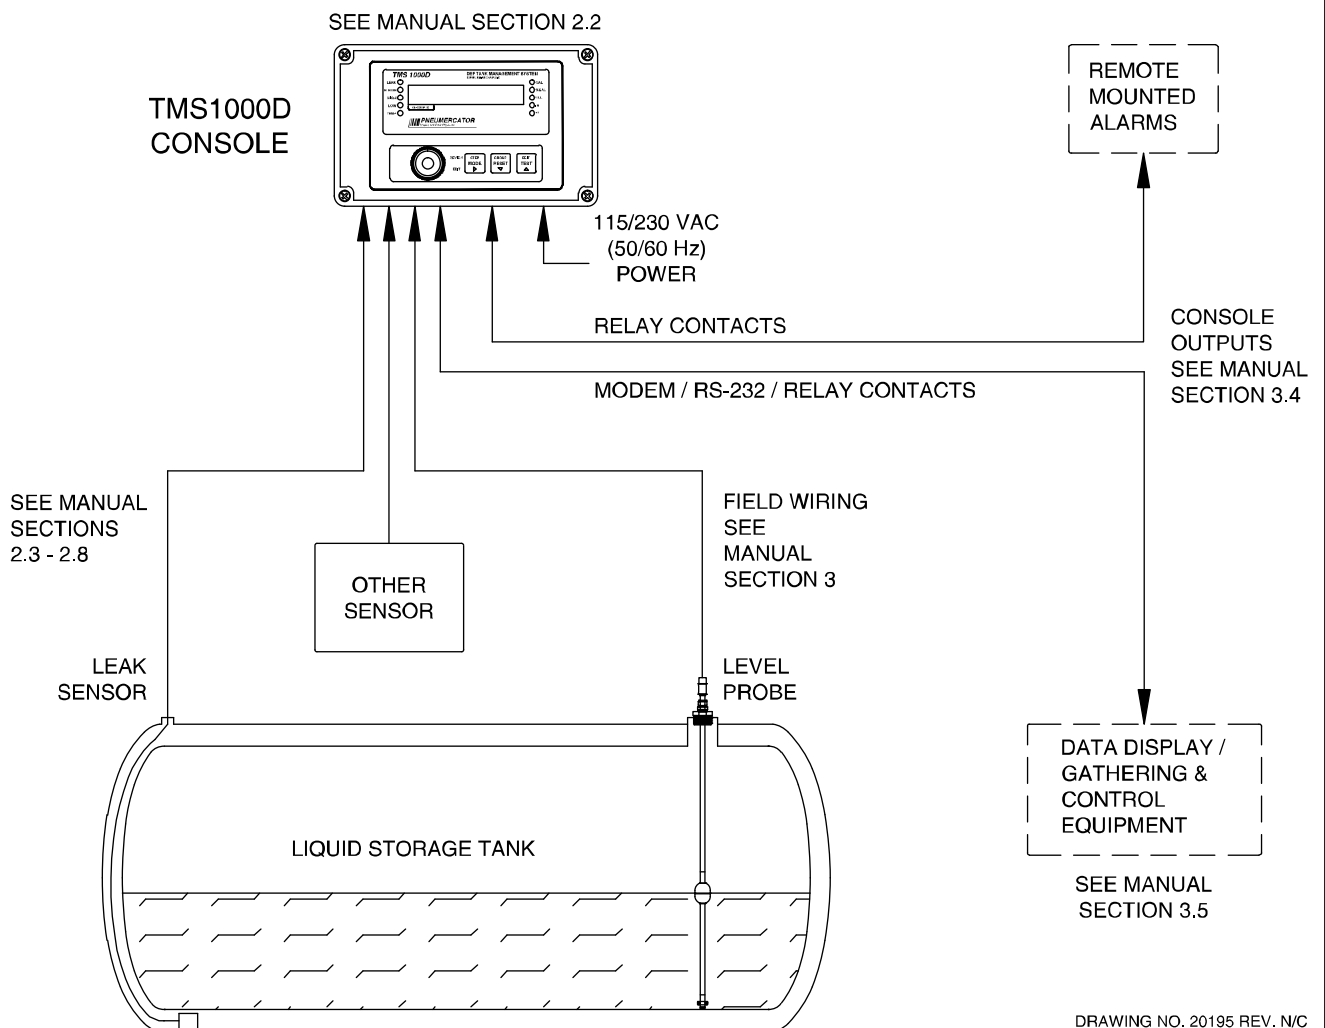

Figure 1-1 – Typical System Block Diagram
The TMS1000D is a fully integrated tank monitor system that combines level measurement with leak detection using external sensors for secondary containment. Figure 1-1 shows a typical block diagram of how a system should be configured for installation. This diagram is not a detailed wiring diagram, which is found in Section 3 of this manual. Figure 1-1 is to guide the installer in planning the actual installation, and give a general overview of the TANK, LEVEL PROBE, EXTERNAL SENSORS, and OPTIONAL equipment that may be required for a typical installation. Figure 1-1 shows one (1) tank with two (2) sensors. Refer to the specific design drawing for the customer's actual site for complete site-specific details on how many sensors are specified.